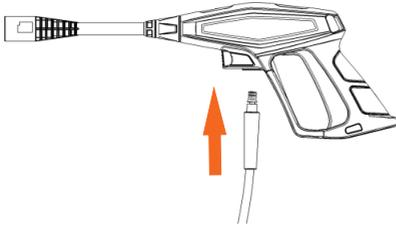

Figure 1
### Product Parts (FIG 1)
1. Connect the end of the high pressure hose firmly into the trigger assembly. See figure 1 and 2.